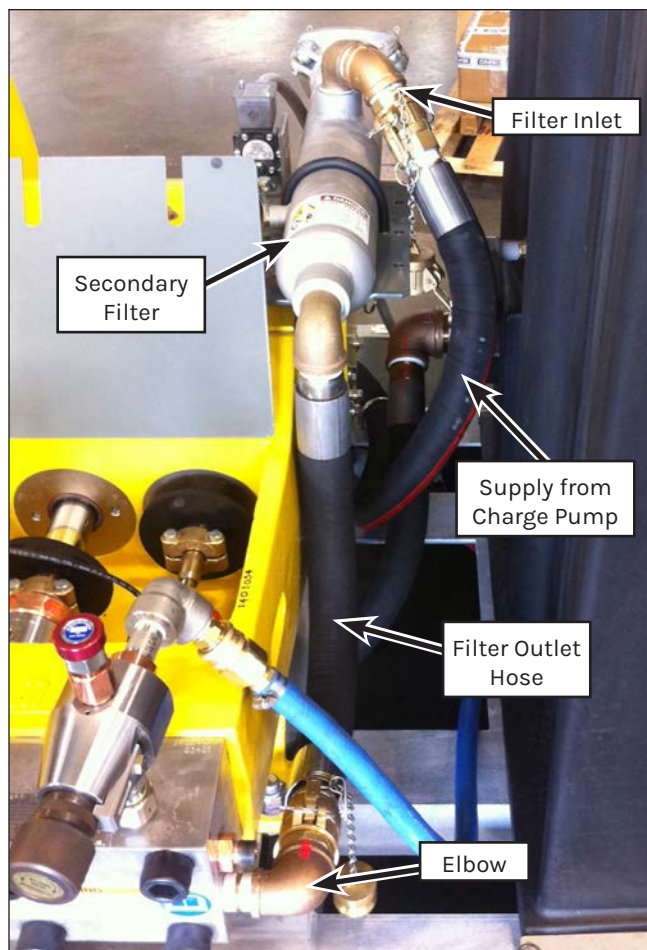

Figure 80: Plumbing.
3. Remove the plug from the filter outlet hose (Figure 80). Connect the hose to the elbow on the 40K manifold.
4. Remove the cap from the secondary filter inlet coupling (Figure 80).